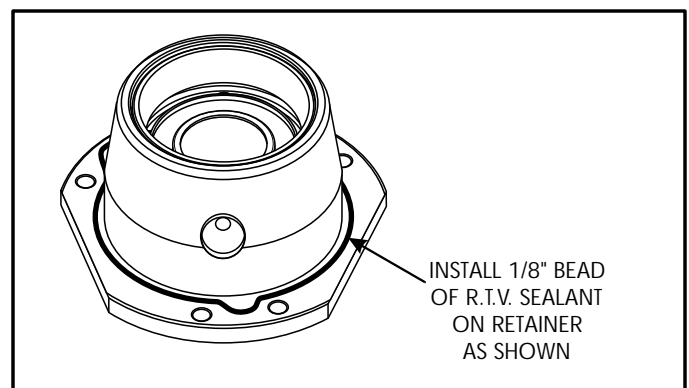

Figure 163
13. Apply a 1/8" bead of R.T.V. sealant to bearing retainer, as shown in Figure 163.